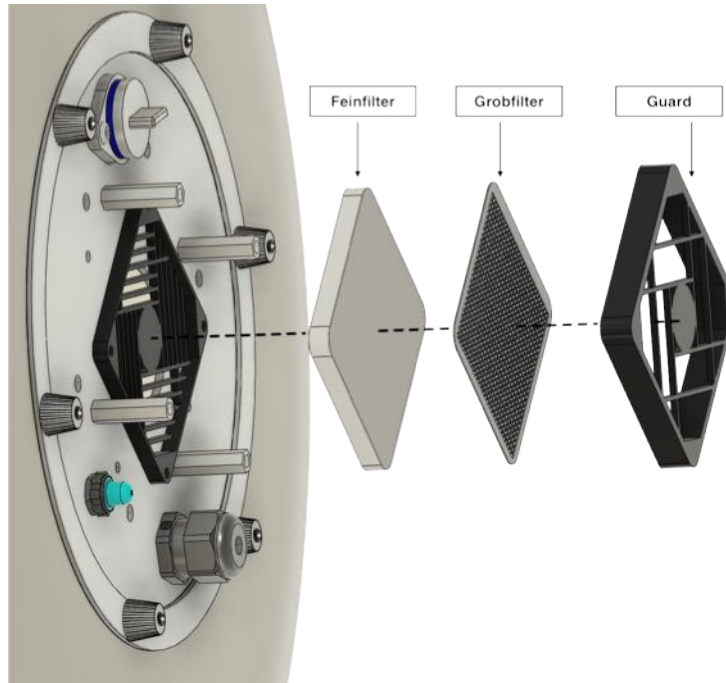

Abb. 11
2. Remove the filter cover (Guard) and remove the two filter inserts (Fig. 11)